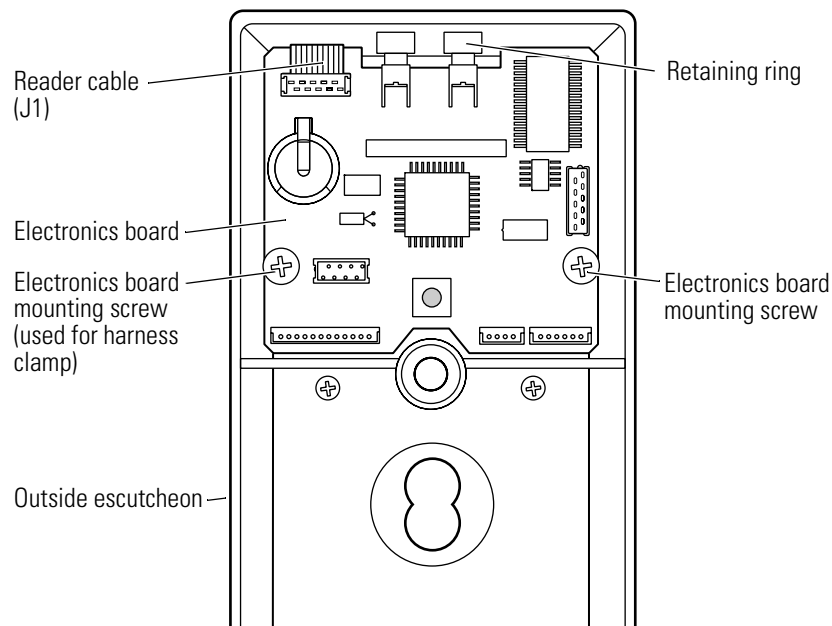

Figure 9.13 Removing and reinstalling the dual validation control electronics board
2. Remove and save the electronics board mounting screws. See Figure 9.13.
2. Firmly connect the reader harness to the connector on the upper-left corner of the electronics board. The connector should snap into place. See Figure 9.13.